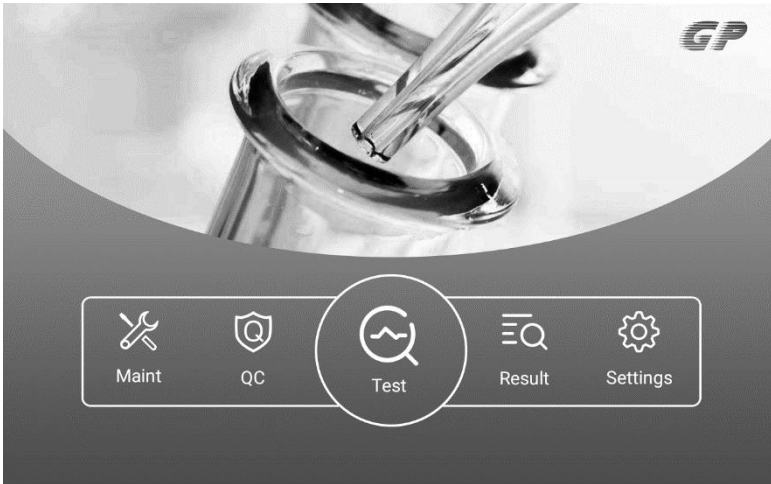

Fig. 5-2 Main Interface
- c) The Main interface appears after system initialization (Fig.5-2).